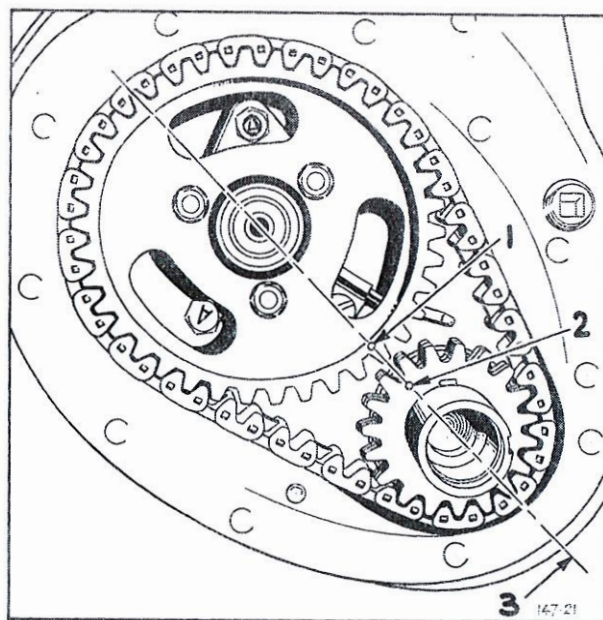

Fig. 6—Marks on Timing Sprockets
It may be removed only by taking the camshaft sprocket from the sprocket hub. The three screw holes are not universal so that sprocket will fit only in one position. The relation of the crankshaft and camshaft for correct valve timing is secured by installing the chain and camshaft sprockets with the two 0 marks together. See (1) and (2), Fig. 6